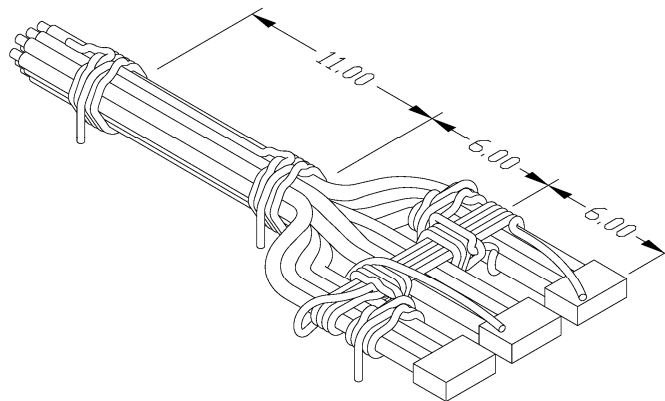

Figure 10: Continue Wrapping the Cables
4. Bring the cables together and wrap the cables 6 inches from the first wrap. Continue wrapping the cables every 11 inches until the cables exit the switch (Figure 10).